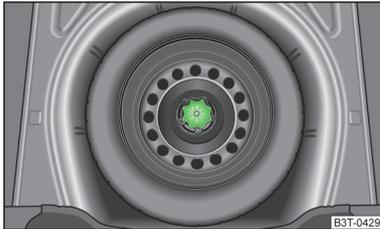

Fig. 136
The spare wheel is located in a well under the floor covering in the boot and is fixed in place with a special bolt » Fig. 136.
- Unscrew the nut » Fig. 136 anticlockwise.
- Screw on the nut » Fig. 136 clockwise until the wheel is safely secured.